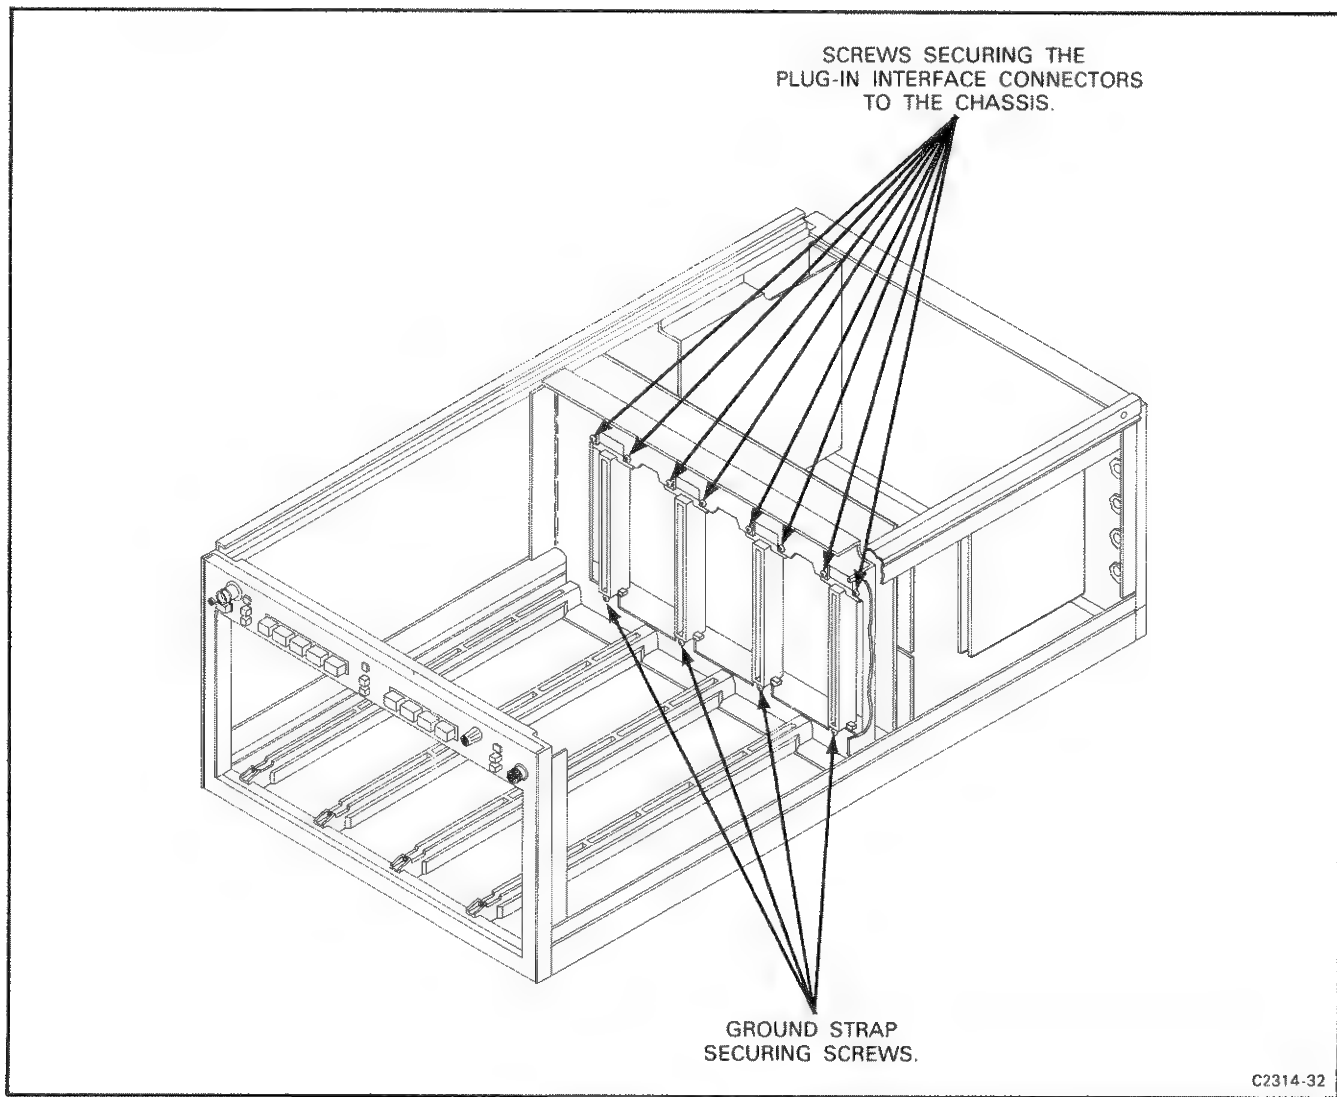

Figure 4-12. Location of securing screws for the A6-Main Interface board.
3. Remove the screws from inside each plug-in compartment which hold the plug-in interface connectors to the chassis (see Fig. 4-12).